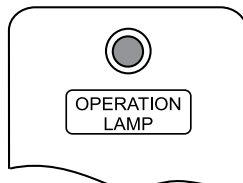

Figure 29. Operation Lamp
- Verify operation lamp is lit (**ON**). Reference Figure 29.